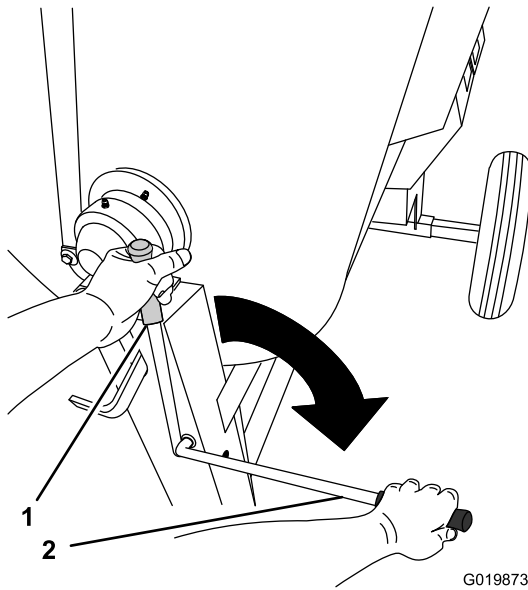

Figure 30
2. Move the clutch lever to the OFF position (Figure 30).
5. Move the clutch lever to the ON position (Figure 30).